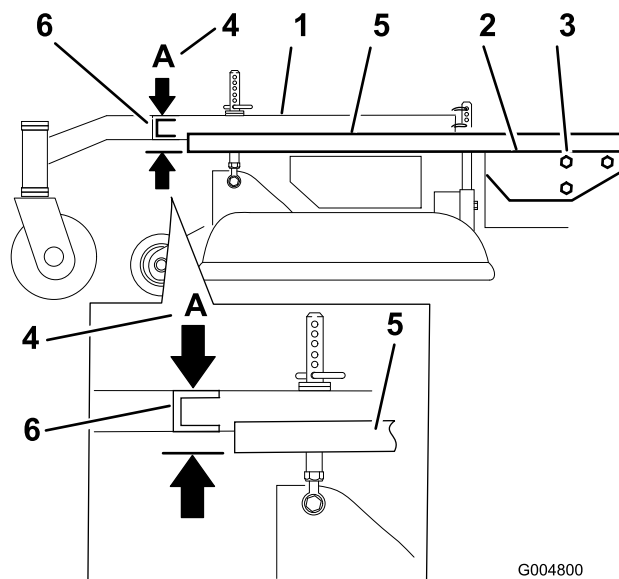

Figure 66
3. Place a long straight edge on top of the engine deck as shown in Figure 66.
4. At the carrier frame cross channel, measure the height at location A (Figure 66). This measurement must be 1-5/16 inch (33 mm), plus or minus a 1/4 inch (6 mm).
6. Loosen the carrier frame mounting bolts on both sides of the machine (Figure 66).
7. Align the carrier frame and engine deck to match 1-5/16 inch (33 mm), plus or minus a 1/4 inch (6 mm) at location A (Figure 66).